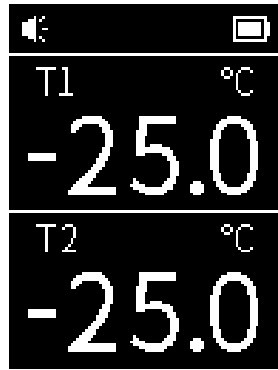

Figure 1
4. The product enters the dual temperature interface by default , as shown in Figure 1, the large screen displays the real-time temperatures of the two thermocouples ;